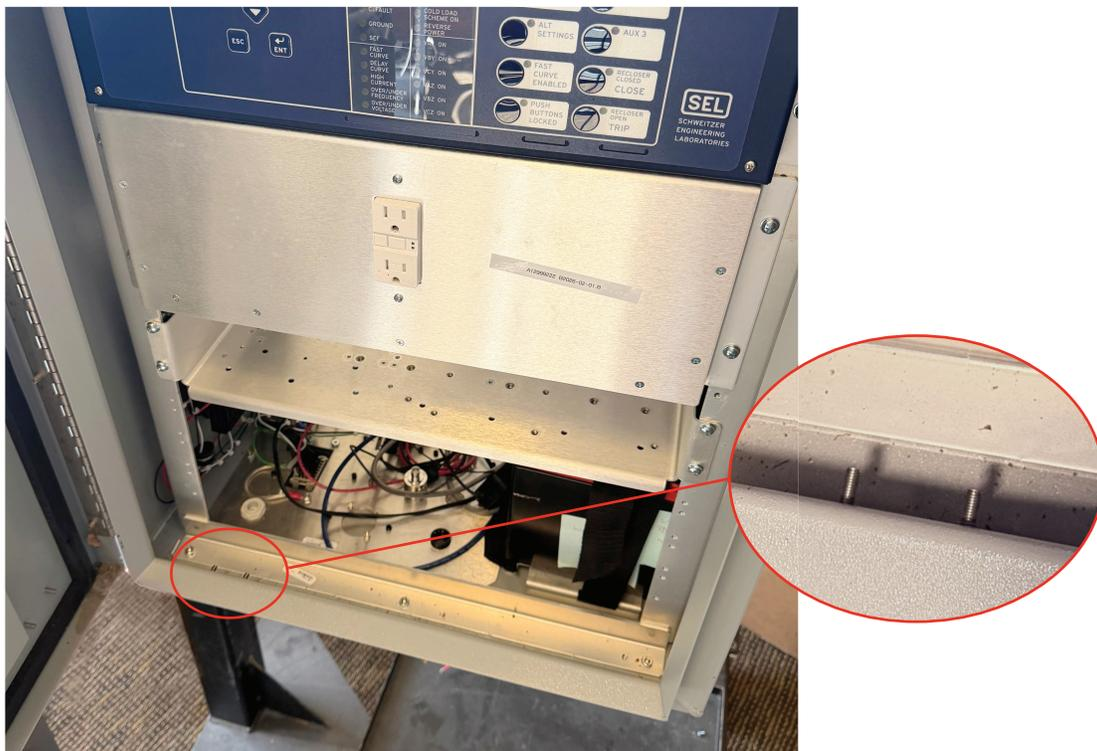

Figure 2 Cabinet Bracket Assembly Mounting Location
Step 3. Identify the mounting places for both door switch bracket assemblies on the bottom of the cabinet closest to the door of each side (front and rear), as identified in *Figure 2*.